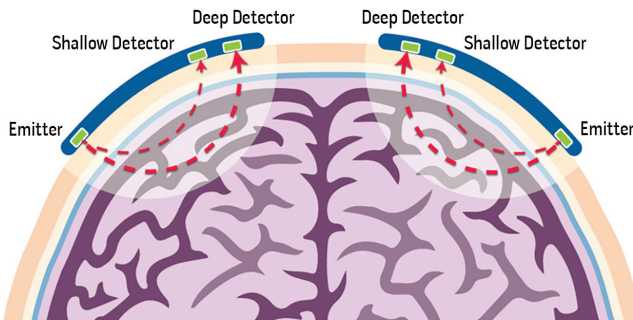

Figure 2: Schematic of an example of a regional oximeter sensor measuring deep tissue oxygenation.
The Masimo O3® Regional Oximetry System uses a common emitter and at least two (2) detectors that are spaced apart from each other and are at different distances relative to the emitter. In the case of a two-detector system, as in Figure 2, the detectors may be known as: